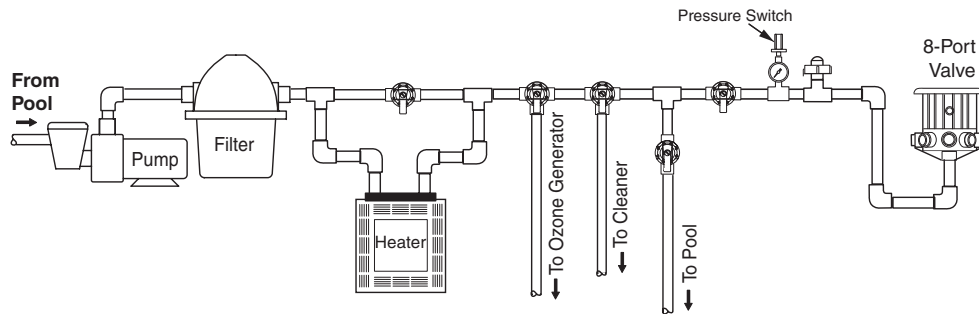

Figure 7. Plumbing Example for a Dedicated Cleaner Line
**Heaters:** To compensate for heater system pressure drops, plumb heaters in a bypass line before the water valve, even if the heater has an internal bypass. Perform a temperature rise test to determine where to set the bypass valve (see Figure 7). Ensure proper water flow can be reached.
**Automatic Pool Cleaners:** When using an automatic pool cleaner with the in-floor system, plumb the dedicated cleaner line (booster pump if applicable) before the valve (see Figure 7).